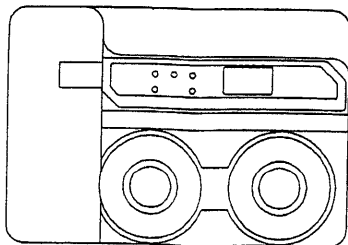
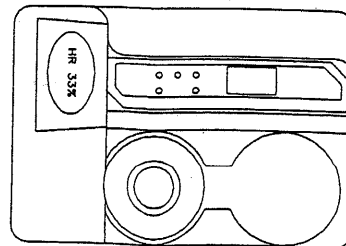

FIG 1
FIG 2
※ The carrying case is for not only storage (see FIG1)but also calibration (see FIG2).
5.1.1 Turn on the meter. Plug unit in 33% salt reference bottle and put unit into the carrying case as shown FIG2. Check the reading on LCD after 40 minutes. If the display reads between 31.5% and 34.5%, that means the meter is accurate. Otherwise, it needs to be recalibrated. Please calibrate the meter by following calibration instruction 5.3.A.